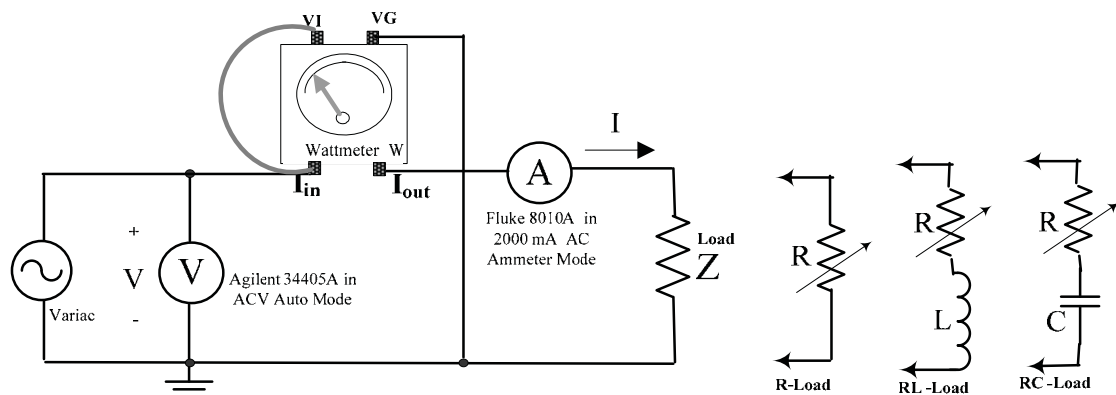

Figure 5.3 : Circuit for power measurements
**POWER MEASUREMENTS:** In this part of the experiment, measurements are made on three specific loads: (1) a ‘resistive’ load  $Z = R$ , (2) an ‘inductive’ load, with the two elements of the RL-box connected in series,  $Z = R + j\omega L$ , and (3) a ‘capacitive’ load, with  $R$  from the RL-box and  $C$  from the C-box connected in series,  $Z = R + (1/j\omega C)$ . The general circuit shown in Figure 5.2 is used **with appropriate modifications to the manner in which the RL-box and C-box are connected.** The circuit for power measurements is shown in Figure 5.3. The circuit is the schematic equivalent of that shown in Figure 5.2, but the load is shown as a general impedance  $Z$ .
2. **RESISTIVE LOAD:** Set up the circuit of Figure 5.3 with the  $R$  load. {This can be achieved in Figure 5.2 by disconnecting the C-box at the RL-load end, and then altering the RL-load connections so that only  $R$  is connected }
3. **INDUCTIVE LOAD:** Set up the circuit of Figure 5.3 with the RL load [R and L in series , so that  $Z = R + j\omega L \approx R + j 75.4$  , Ohms.] {This can be achieved in Figure 5.2 by simply disconnecting the C-box at the RL-load end }
4. **CAPACITIVE LOAD:** Set up the circuit of Figure 5.3 with an RC load [R from the RL-box and C from the C-box in series , with all switches toggled upwards so that so that  $C = 40\mu\text{F}$ ,  $Z = R - j / \omega C \approx R - j 66.3$  , Ohms]. {This can be achieved in Figure 5.2 by simply removing the central (green wire)link between the R & L element on the RL-load box and moving the (blue wire) lead from the capacitor to the other R terminal }